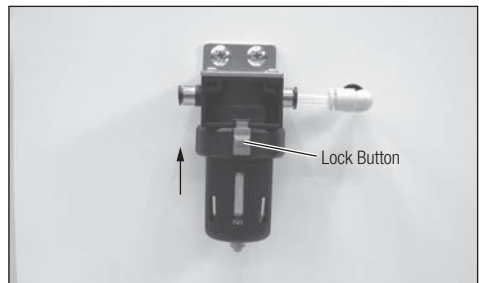

Fig. 34
- 9) Put lock button up, to lock. (Fig. 34)